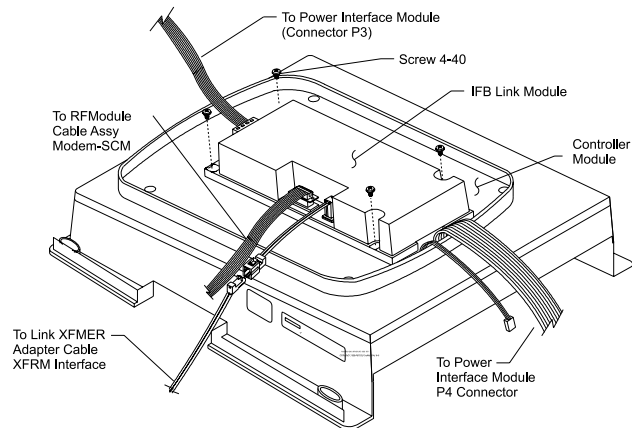

Figure 10: +LINK Interface Board installation and connection
2. Use four #4-40 machine screws to attach the +LINK Interface Board module to the bottom of the control module, as shown in Figure 10.